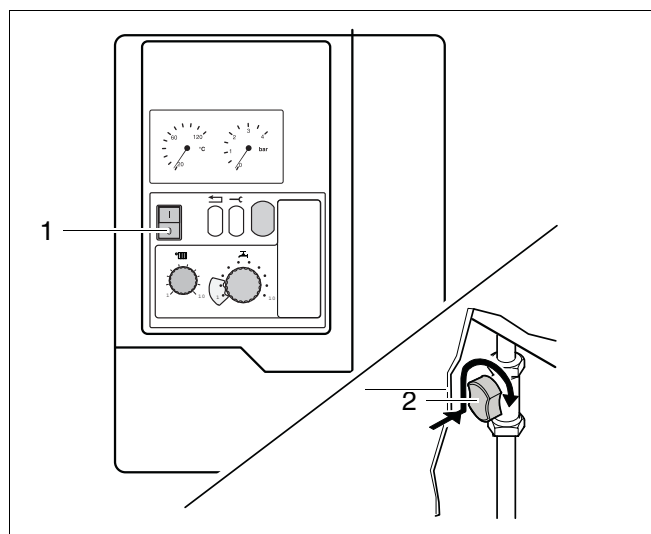

Fig. 11 Mains switch, gas service valve
- Push the mains power switch (fig. 11, item 1) to "0".
- Close the gas service valve by turning it clockwise (fig. 11, item 2).